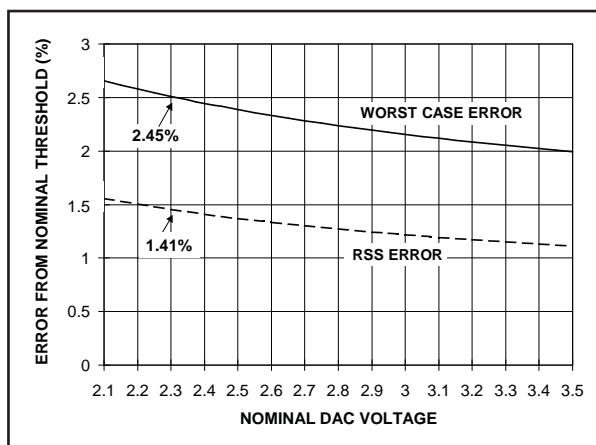

Figure 14. Error Analysis for a Nominal 7.5% OV/UV Threshold Setting - Varies with V_{OUT}
Unitrode has performed a Worst Case and an Root Sum Square (RSS) error analysis including all the abovementioned factors, for a set Ratio of $R_{DIV}=0.45$ (7.5% OV/UV thresholds), and using 1% resistors, with the results shown in Figure 14.
Step 6: Solve for the thresholds. Use Figure 14 to estimate tolerances.